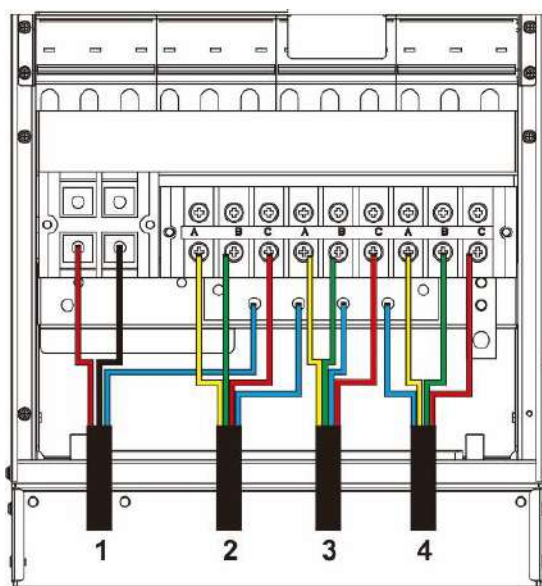
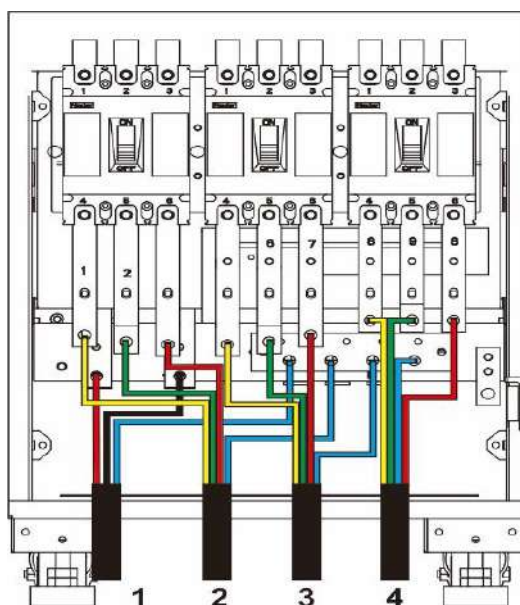

Fig. 3-9 Wiring of power cable (40/60 kVA)
Fig. 3-10. Wiring of power cable (80/120 kVA)
- The wiring position and path of the power cable at the bottom of the cabinet are shown in Fig. 3-9 and Fig. 3-10.